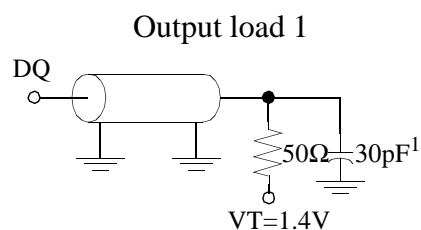

Fig. 1
Output load	Fig. 1 & 2
2. Test conditions as specified with output loading as shown in Fig. 1 unless otherwise noted